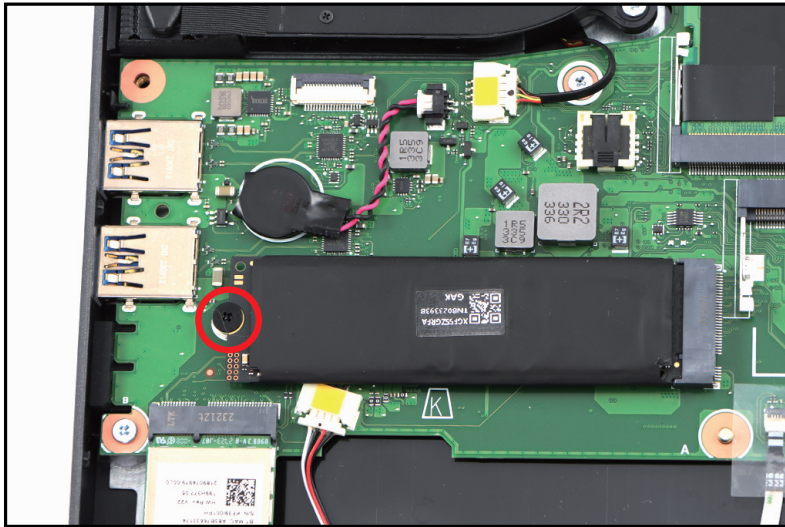

Figure 1-17. SSD Module Removal
3. Remove one (1) screw securing the SSD module (Figure 1-17).